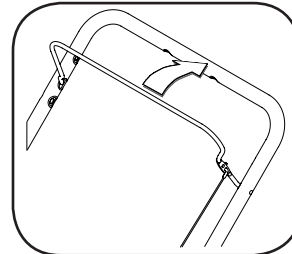

Figure 5-2
- Engage the auger by squeezing the auger control against the upper handle. See Figure 5-2.